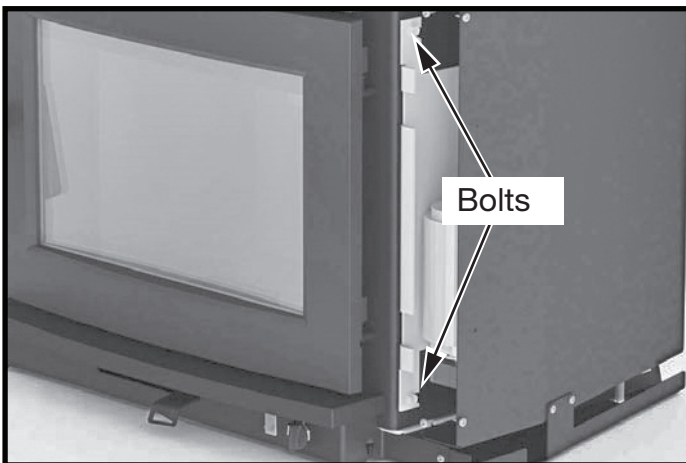

Figure 6: Blower mounting bracket.
3. With a 3/8" wrench, loosen the two bolts (Figure 6) securing the blower mounting bracket to the unit.